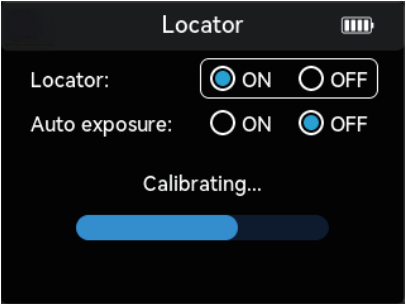
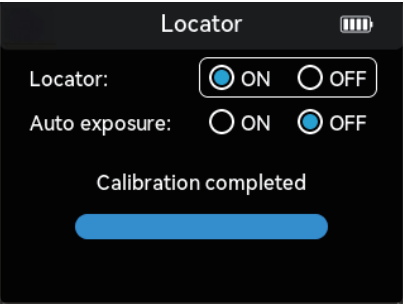

Figure 30
Figure 31
(2) When the positioning function is working properly and place the device horizontally on a flat surface, then press the  button to select the “ON”, press the  button again, a progress bar indicating calibration in progress will appear below, as shown in Figures 30. If the calibration is successful, the progress bar will complete and the system will return to the main interface, as shown in Figure 31. When the option status is “OFF”, there will be no prompts.